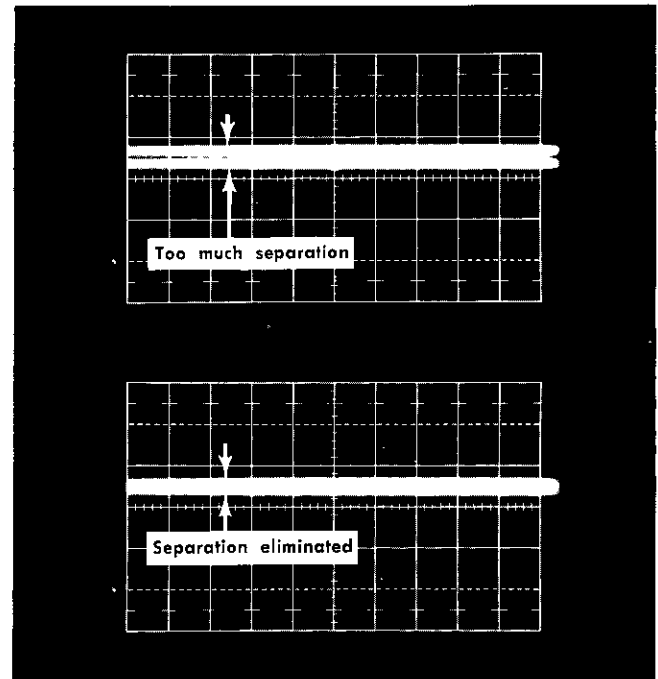

Fig. 6-13. Noise waveforms, step 7. Sweep rate 5 μ s/div; deflection factor 1 mV/div.
h. Decrease the + TRANSITION AMPLITUDE to a point where the dark line between the two traces is just eliminated. Use Fig. 6-13 as a guide. (The desired presentation is obtained when a point is reached where doubt exists as to whether the dark line is or is not eliminated.) The two traces are now separated by noise.